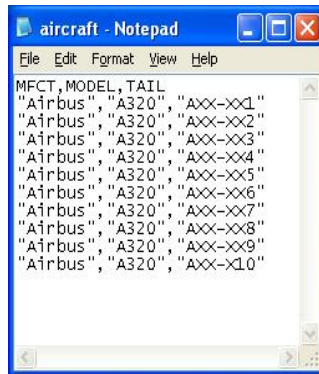

Figure 2.2 - Create a list of each Aircraft, Model and Tail number
7. See figure 2.2 below to ensure your format is correct. Then confirm and save the file again to both the USB key and the backup file on your C: drive..